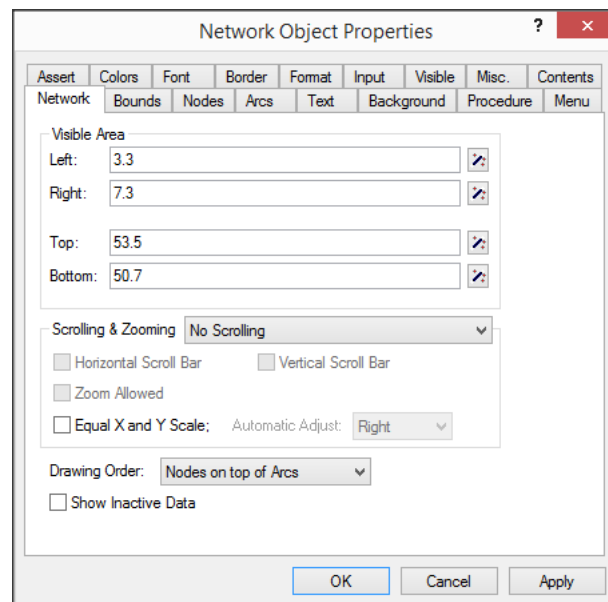

Figure 5.14: The **Network Properties** dialog box
- ▶ fill in the four edit fields as in Figure 5.14.